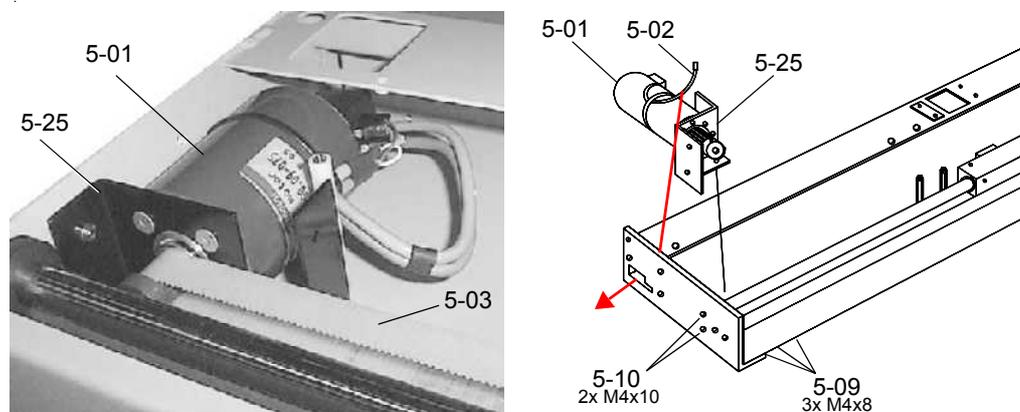

Figure 6-13 Installing X-motor LiHa
- 2 Lead the X-motor cable through the slot in the X-bay (see arrow in Figure 6-13) and connect it to the CU board (J13) (see Figure 6-22, 'CU board cable connections').